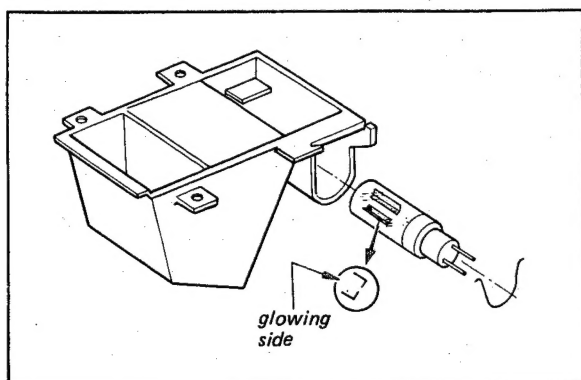

Fig. 2-11. Strobe lamp removal and installation
3. Unhook the retaining spring from the lamp cover and then apply a drop of cement solvent to the lamp. Wait a few seconds, and then push out the defective lamp as shown in Fig. 2-11.
4. Install a new strobe lamp. Take care that the glowing side (front) of the lamp is positioned as shown in Fig. 2-11.